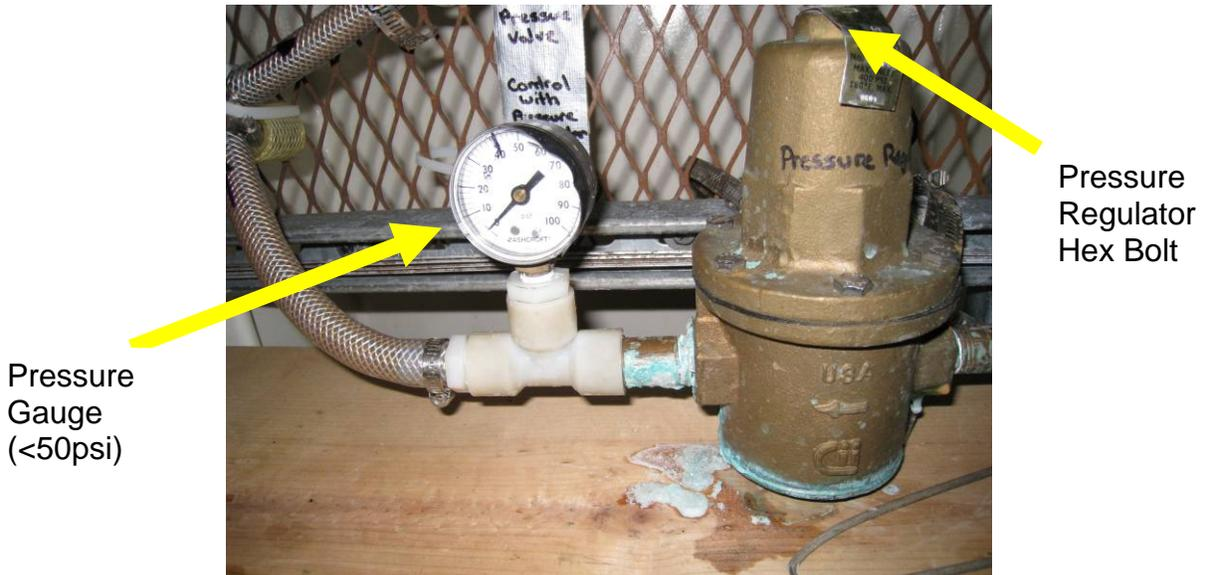
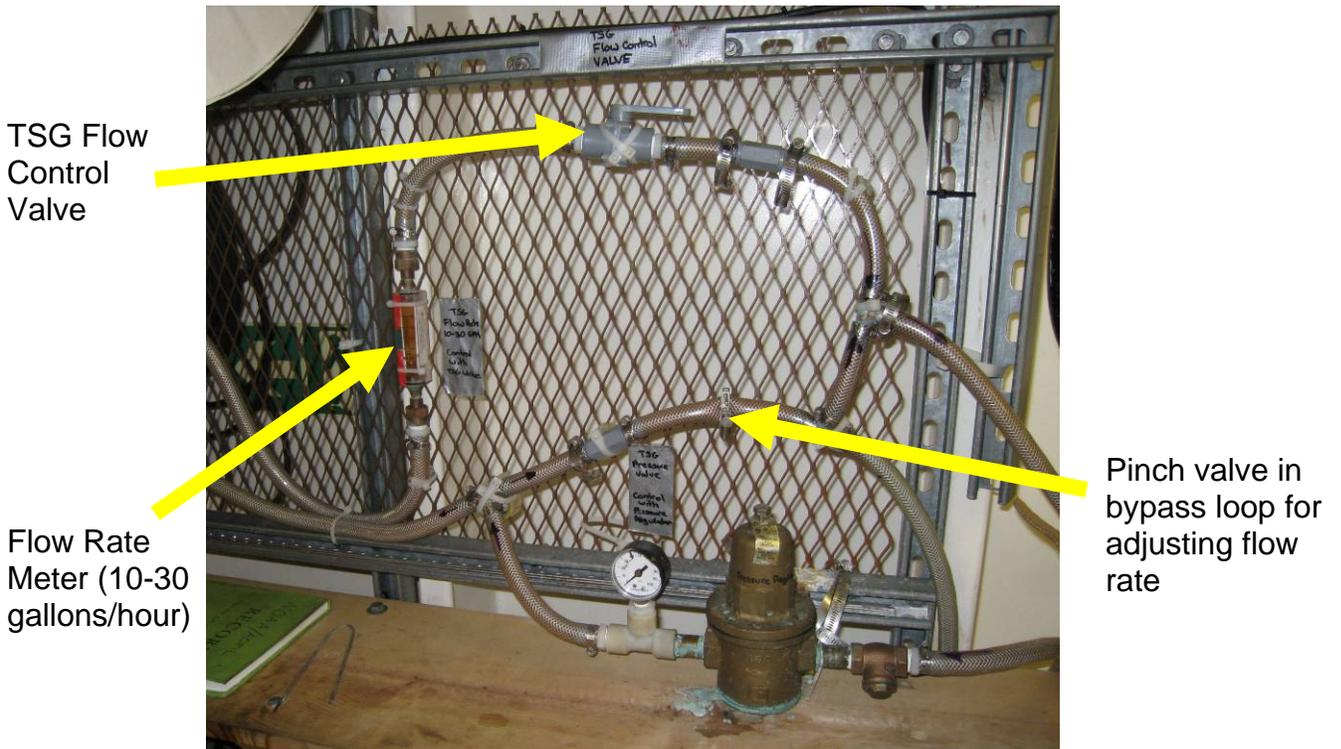

Figure 4. Pressure Gauge and Regulator
Figure 5. Flow and Pressure System
3. Verify that the flow and pressure are within the required limits. The pressure should read less than 50 psi (approximately 3 bars). The pressure can be regulated by turning the hex bolt on top of the pressure regulator (Fig. 4).
4. The flow rate should read between 10 and 30 gallons per hour. The flow rate can be adjusted in two places. First, the PVC ball valve labeled “TSG Flow Control” and second, the pinch valve in the bypass loop. Under typical conditions the pump will push more water than is safe for the TSG so the flow must be regulated in some way (Fig. 5).
2. Log the date, time, pressure and flow rate in the green log book provided. Verify that the flow and pressure are within the required limits. The pressure should read less than 50 psi (approximately 3 bars). The pressure can be regulated by turning the hex bolt on top of the pressure regulator (Fig. 4). The flow rate should read between 10 and 30 gallons per hour. The flow rate can be adjusted in two places. First, the PVC ball valve labeled "TSG Flow Control" and second, the pinch valve in the bypass loop (Fig. 5). Under typical conditions the pump will push more water than is safe for the TSG so the flow must be regulated in some way.